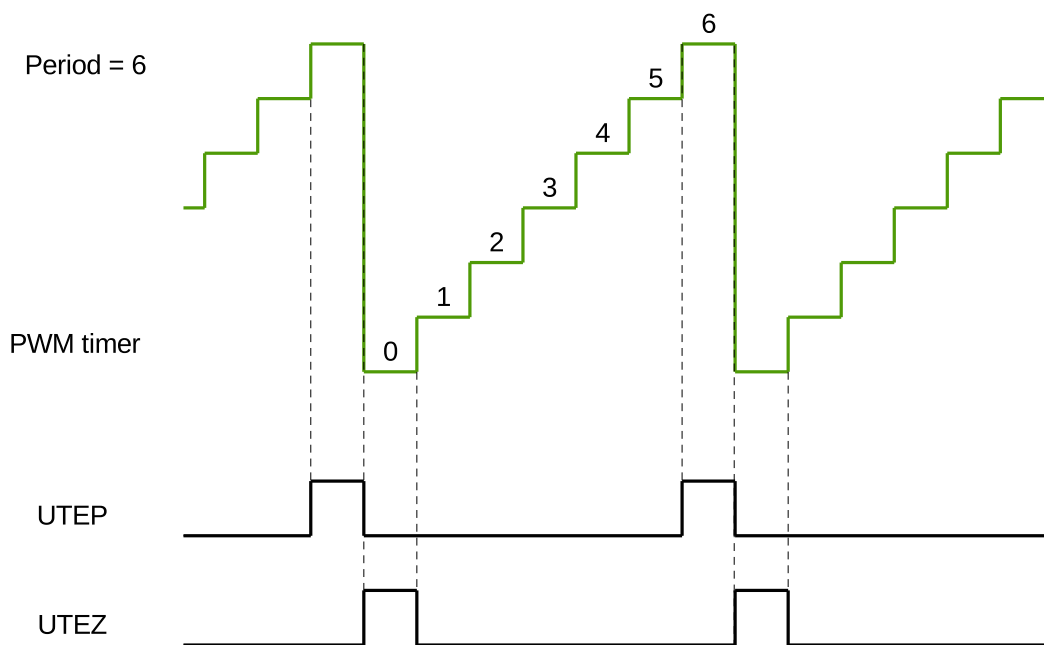

Figure 85: UTEP and UTEZ Generation in Count-Up Mode
Figures 85 to 87 show the timing waveforms of U/DTEP and U/DTEZ.
1. UTEP and UTEZ do not happen simultaneously. When the PWM timer is in count-up mode, UTEP will always happen one cycle earlier than UTEZ, as demonstrated in Figure 85, so their action on PWM signals will not interrupt each other. When the PWM timer is in count-up-down mode, UTEP will not occur.